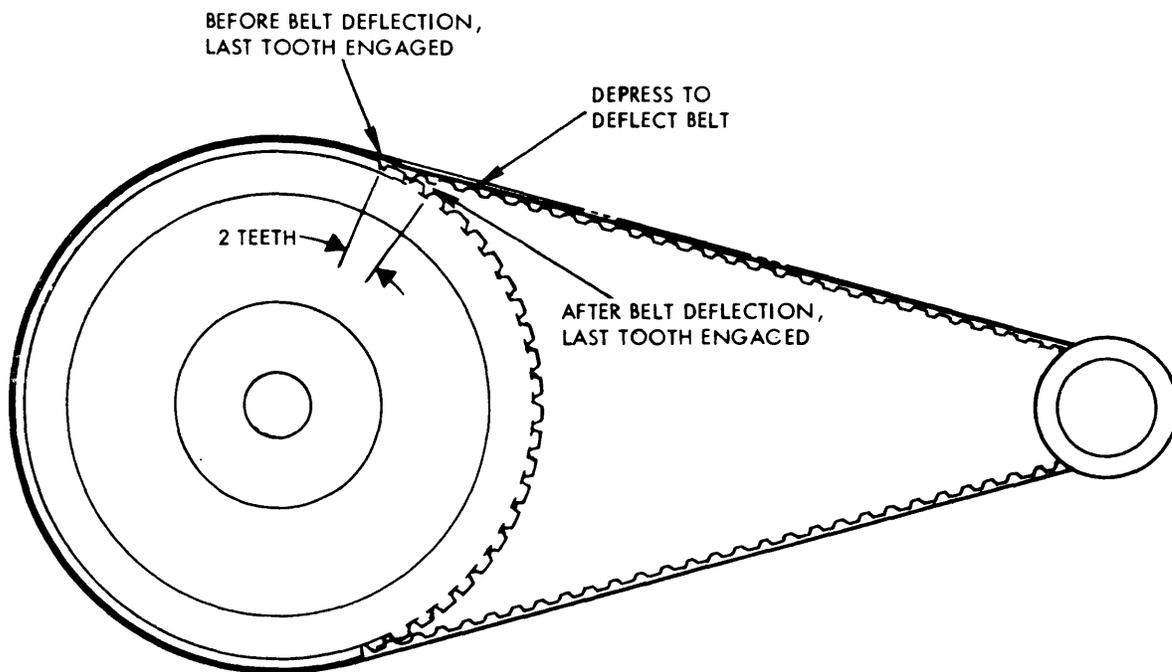

Figure 6-5. Reel Servo Belt Tension Adjustment
- (2) Adjust the pulley so that the timing belt is snug. Note the last belt tooth that is completely seated in a slot on the large pulley. (Refer to Figure 6-5.)
- (3) Count two to three teeth from the last engaged tooth. Hold the large pulley to ensure that it does not turn. Depress the toothed belt at the point between the second and third teeth with sufficient force to deflect the belt flush against the gear.